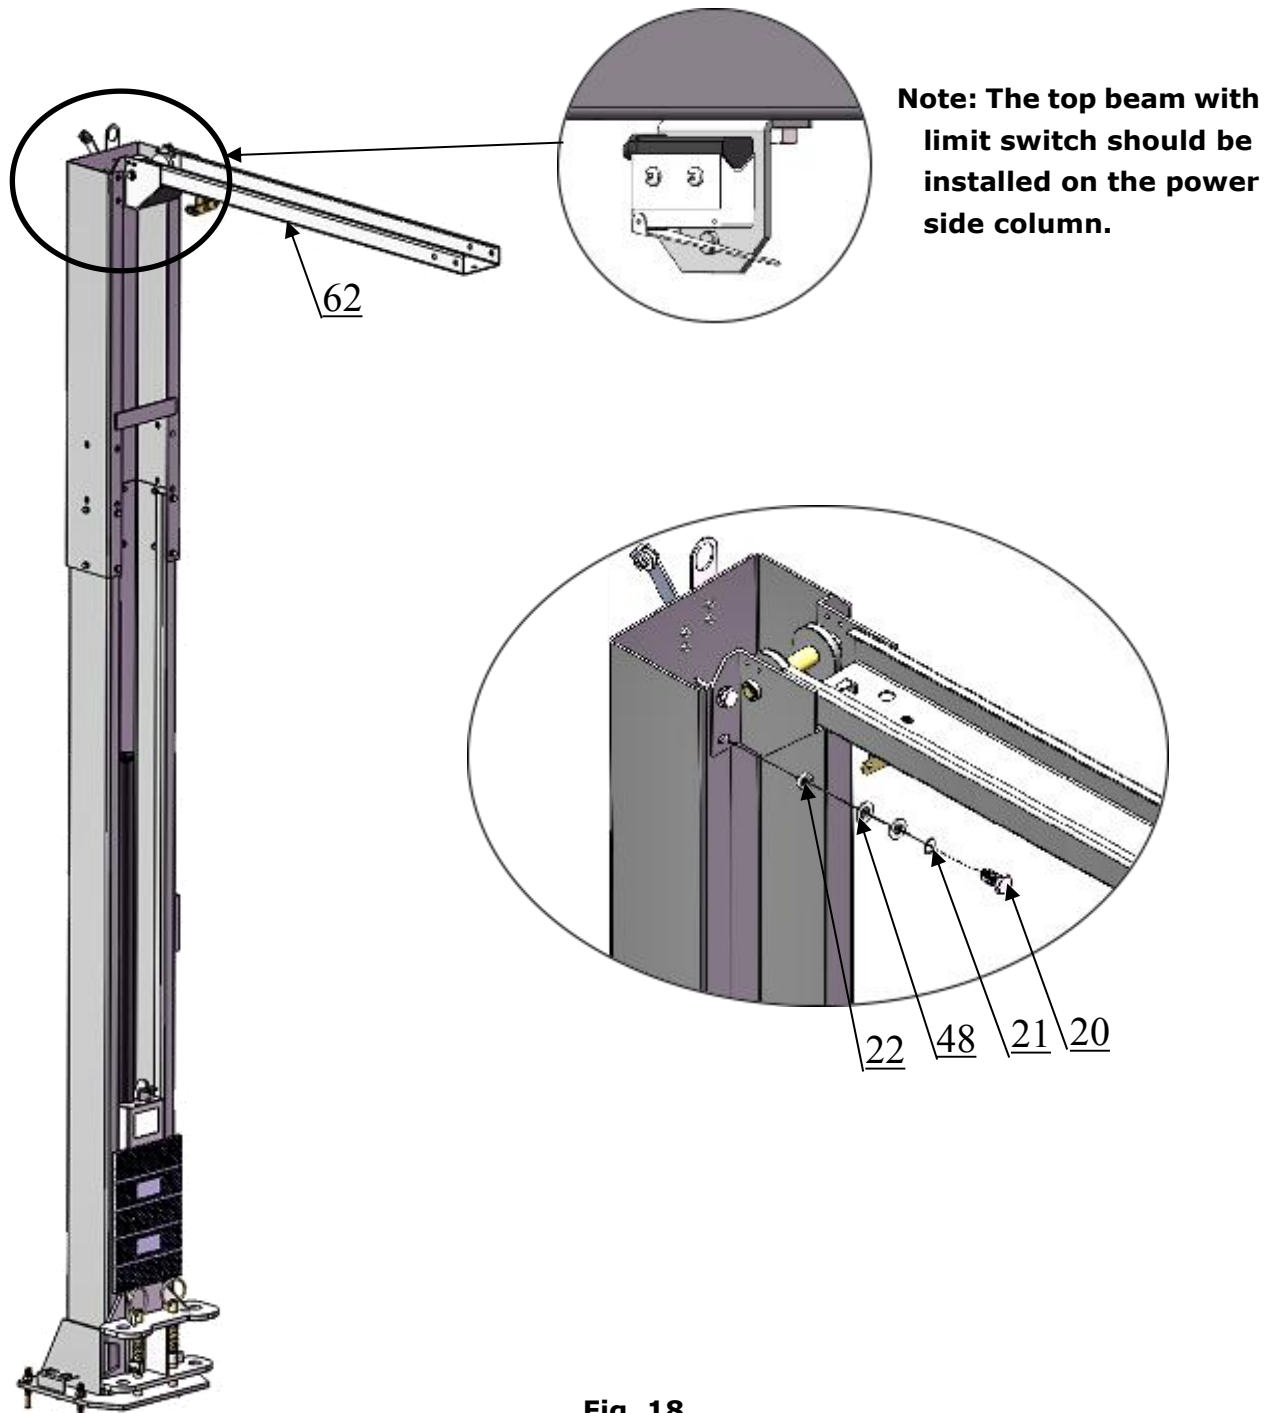

Fig. 18
1. Hook the top beam(with limit switch) on the power side outer column, align the holes and install the bolts. (See Fig. 18).